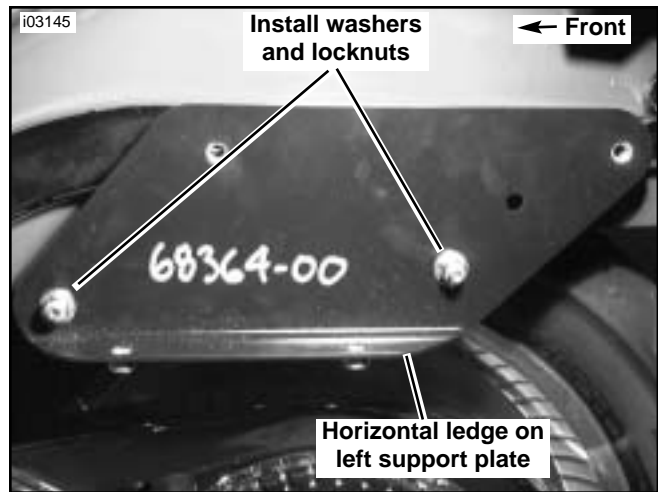

Figure 16. Left Saddlebag Support-Plate Installation
9. See Figure 16. With the horizontal ledge of the left saddlebag-support plate (Part Number 68364-00) facing outward (away from motorcycle), install the plate with washer (Part Number 6701) and lock nut. Use a wrench to keep bolt heads from turning. Torque the lock nuts to 27 ft-lbs (36.6 Nm).